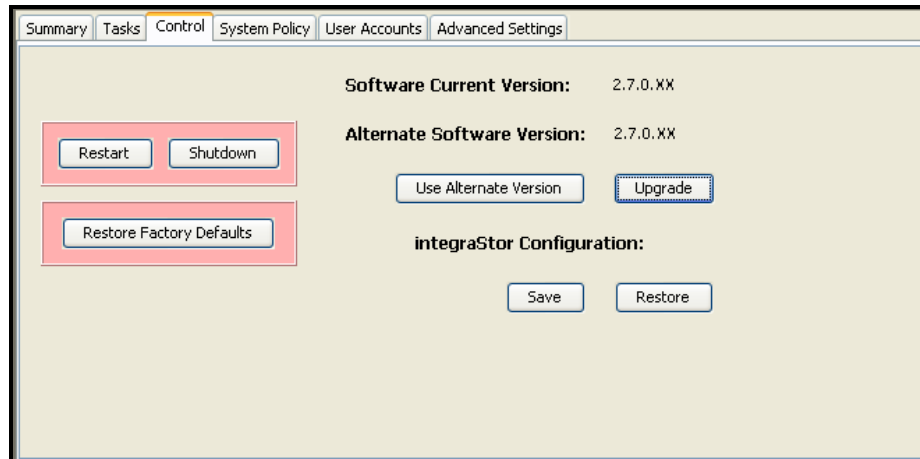

Figure 6-9. Control Tab
1. In the System Administration View, click the **Control** tab to display the Control dialog in Figure 6-9.